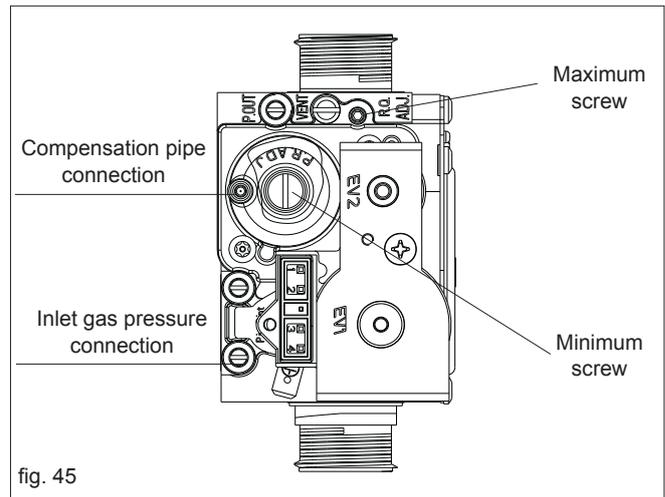

fig. 45
- using a 2.5mm Allen key, very slowly turn the maximum adjustment screw (see fig. 45) – clockwise to decrease, counter clockwise to increase – until the correct value is displayed on the CO2 analyser (allow time for the analyser to stabilise).
- locate the minimum adjustment screw (fig. 45), using a suitable screwdriver remove the protection plug
- using a 4mm Allen key, very slowly turn the minimum adjustment screw (see fig. 45) - clockwise to increase, counter clockwise to decrease - until the correct value is displayed on the CO2 analyser (allow time for the analyser to stabilise).